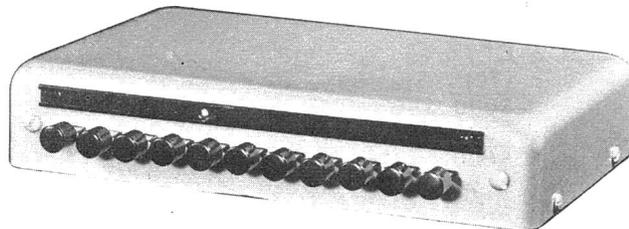
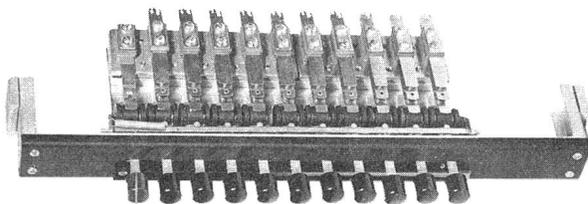
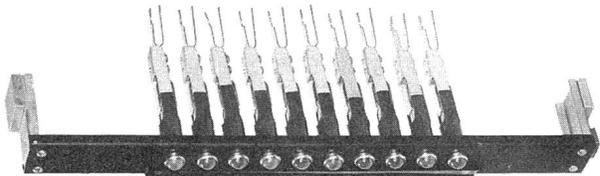

Figure 31A - Graybar GB-1209 Area Selection Key
Figure 32 - Graybar GB-1043 Area Selection Key mounts directly in face of switch
Figure 33 - Graybar GB-1045
3.53 Ten area selection may be performed by using the Graybar GB-1209 or GB-1043 key. The GB-1209 is shown in Figures 31A and 31B and is designed for surface mounting. The GB-1043 is similar to the GB-1209 except that it mounts directly in the face of the switchboard. (See Figure 32). Busy lamp indication may be provided with the GB-1043 key by using the GB-1045 lamp mounting. (See Figure 33).